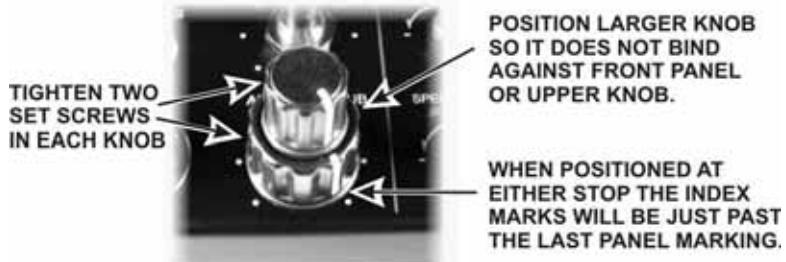

Figure 47. Mounting Concentric Knobs.
- Place the larger of a pair of concentric knobs over the RF/SQL - SUB control as follows (See Figure 47):
- Place the smaller knob over the shaft, align its index line as shown in Figure 47 and tighten one set screw with a 0.050" Allen wrench.